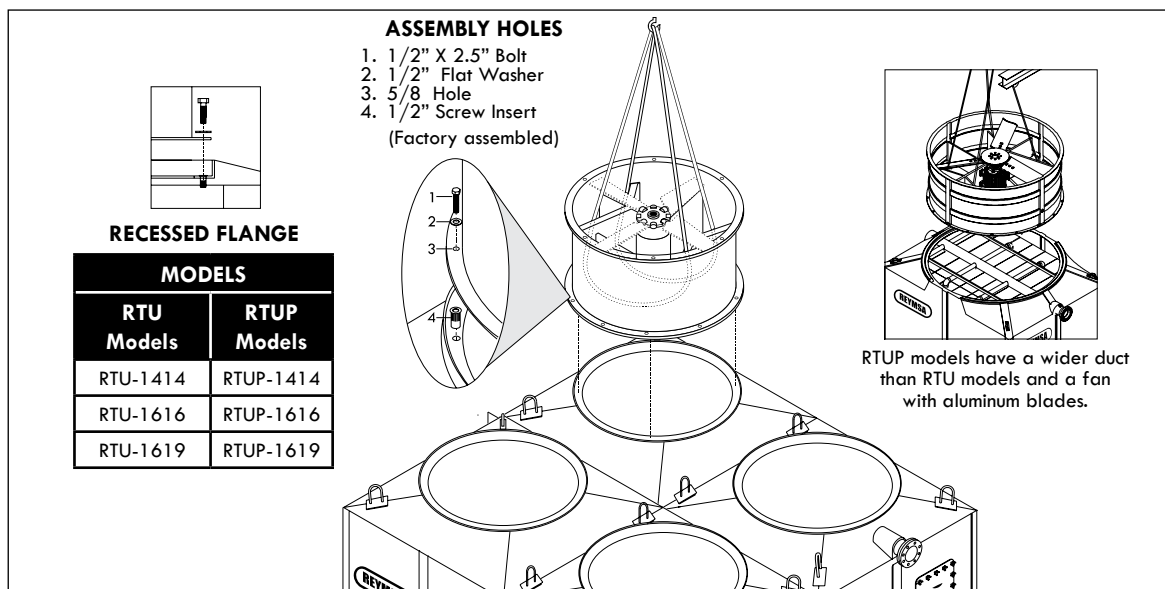

Figure A-45: Fan Duct installation for a Four Fan Tower.
- L. Then cradle/straddle the fan support with the straps (as shown in Figure A-45) so you can lift the fan duct with a crane and assemble it.